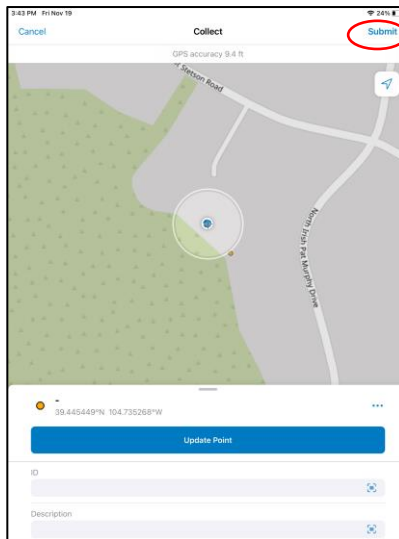

Figure 17
17. Field Maps will display the new point in red and if OK, tap **Submit** (Figure 17)